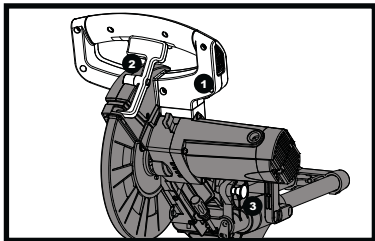

Fig 5
1) Push down slightly on the switch handle (1) and the lock lever (2).
2) Pull out the stop latch knob (3).
3) Allow the cutting head to rise to the up position. (See fig. 5)